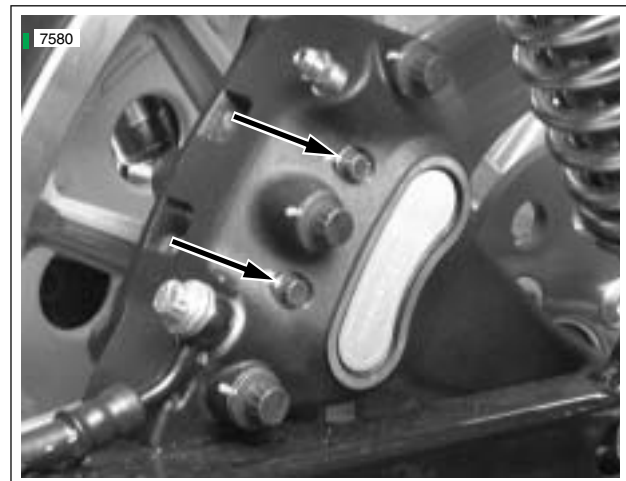

Figure 1-13. Pad Pins (12 pt/0.25 in.) (Rear Caliper Shown)
2. See Figure 1-13. Loosen, but do not remove, both pad pins (12 pt/0.25 in.).